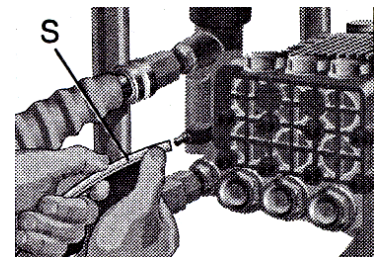

Fig. 8: Chemical Port (1 chem:7 water)
- m. To apply cleaning chemicals or soaps, attach the clear chemical siphon hose (S) to the barbed fitting near the in/outlets of the pump (Fig. 8). Place the end with the filter into the container of cleaning chemicals/soaps. Use only soaps and chemicals designed for pressure washers. One gallon of cleaning solution is used for every 7 gallons of water. You must use the **BLACK LOW PRESSURE NOZZLE** to dispense chemicals/soaps, the others will not work. **DO NOT USE BLEACH.**